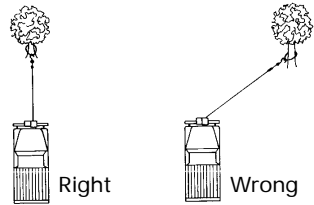

Figure 5
12. **AVOID CONTINUOUS PULLS FROM EXTREME ANGLES** as this will cause the wire rope to pile up at one end of the drum (Figure 5). This can jam the wire rope in the winch, causing damage to the wire rope or winch itself.